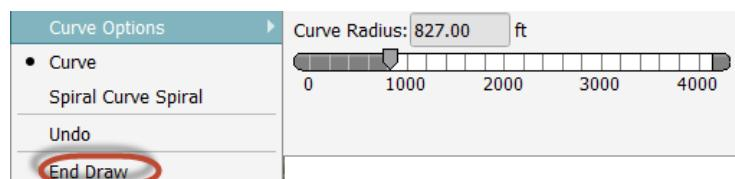

FIGURE 5
8. Select Curve or Spiral Curve Spiral for the transition between tangents, according to the project requirements, as shown in Figure 5.
12. Double-click to set the last point or right-click and select **End Draw**, as shown in Figure 5.